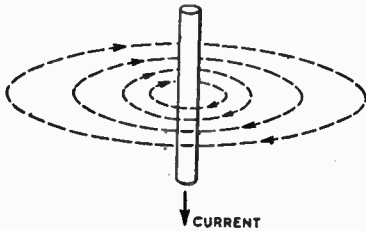

Fig. 1. Magnetic field represented by broken lines circling the direction of flow of an electric current.
1. Every current (that is to say, electric charge in motion) either along a wire, or in space as in an electron stream, is associated with a magnetic field, which acts as indicated by loops drawn around the current path (Fig. 1).